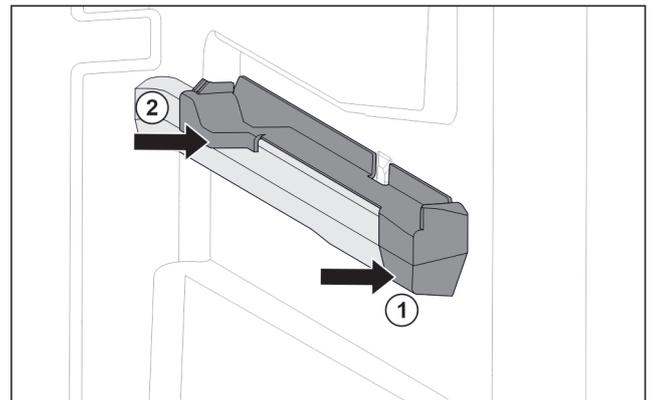

Fig. 115 Attachment on the right moulded rib
- ▶ Position attachment on moulded rib at the front. Fig. 115 (1)
- ▶ Press on attachment at the back. Fig. 115 (2)